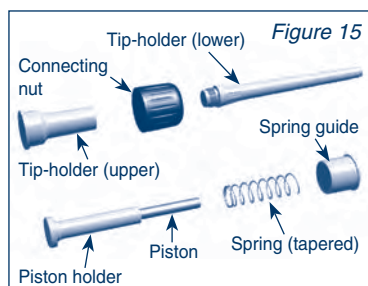

Figure 15
- 4) Pull on the spring guide to remove the piston assembly from the handle of the pipette - separate the parts (figure 15). For C5000 and C10 ml, the connecting nut is combined with the upper part of the tip-holder (see “Spare Parts”).